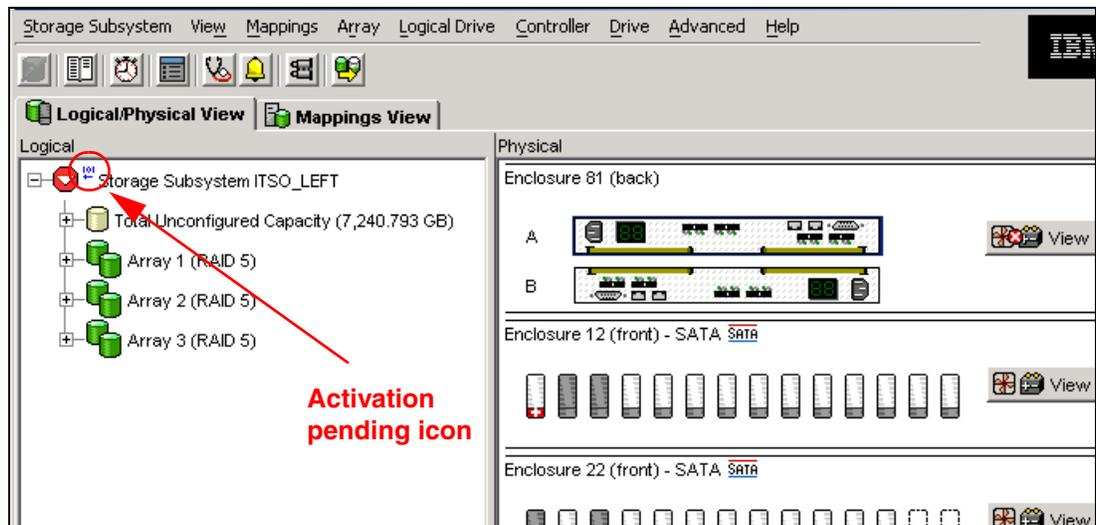

Figure 12-14 Subsystem Management window: Firmware ready for activation
4. After clicking **Close**, you are back in the Subsystem Management window. Because this is a staged firmware upgrade, the new firmware is now ready for activation. This is indicated by a small icon (blue 101 with arrow) next to the storage icon and subsystem name (as shown in Figure 12-14).